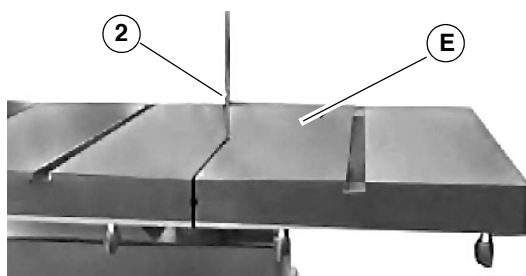

Fig. 10: Assemble the work table
Step 4: Position the work table (Pos. E, Fig. 10) on the stand with the help of a second person and guide the saw band (item 2, fig. 10) through the recess on the table.